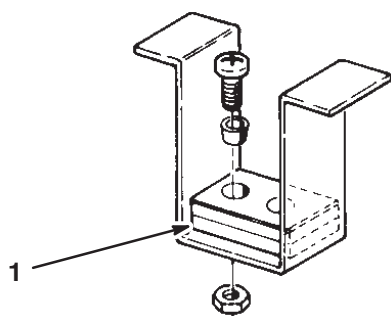

Figure 14
11. Check to make sure that the front height-of-cut pins are resting properly on the frame cushions (Fig. 14). If the pins are not resting properly, place a shim or shims under the cushion to raise it for proper alignment.